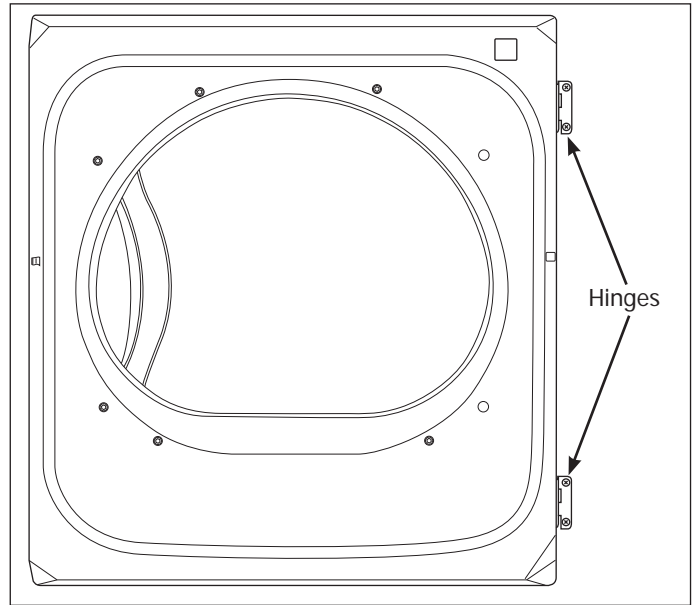

Figure 2-41.
8. Remove the two hinges and reinstall the four screws. Note the installation orientation of the hinges. (See Figure 2-41)